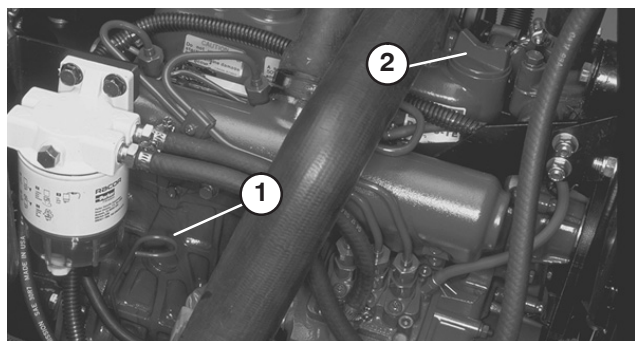

Figure 14
2. Remove dipstick, wipe clean and reinstall dipstick. Remove dipstick and check oil level on dipstick; Oil level should be up to the **full** mark (Fig. 14).
3. If oil is below **full** mark, remove fill cap and add oil until level reaches **full** mark on dipstick (Fig. 14). **Do not over fill.**